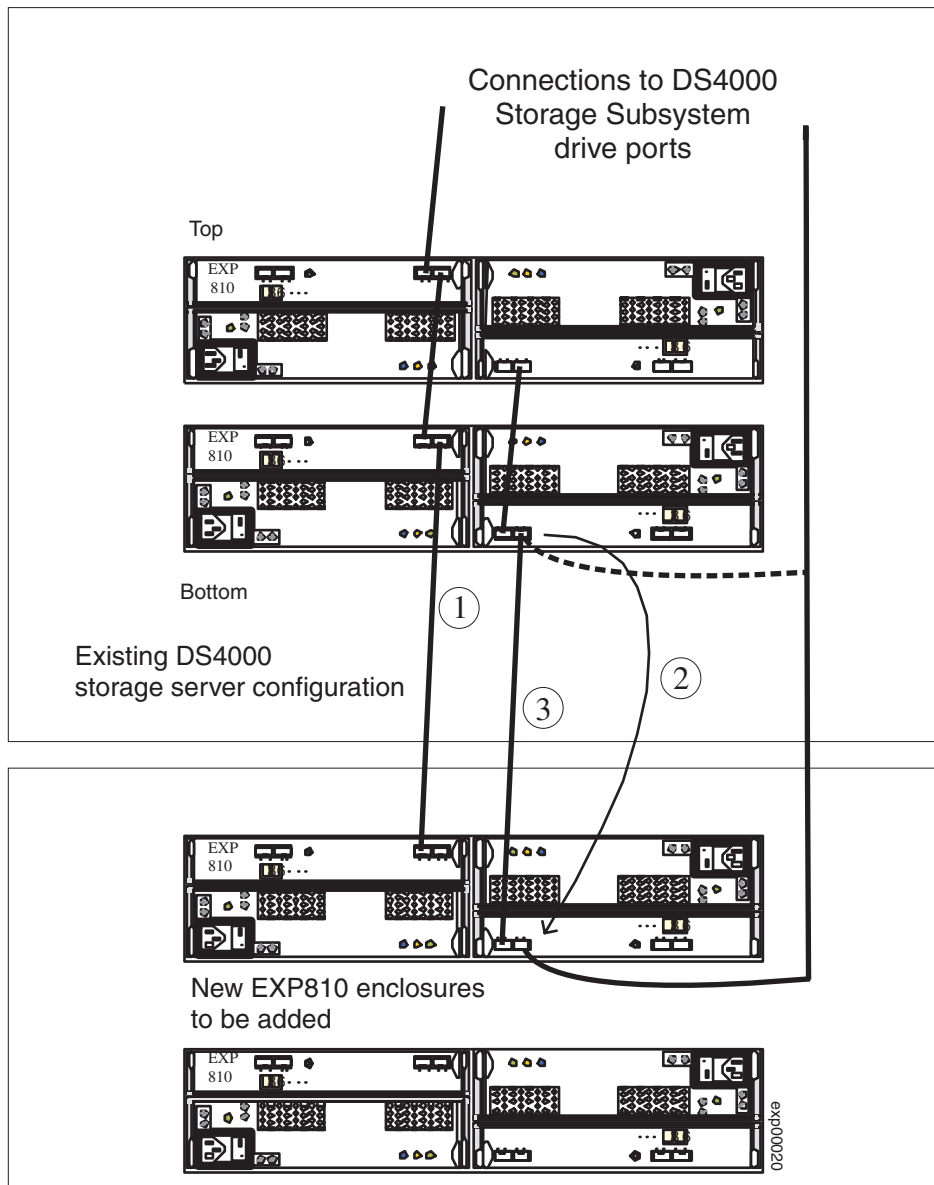

Figure 28. Cabling an EXP810 to the end of a functioning drive loop
- End (bottom) of a drive loop, see Figure 28 on page 78.
Note: The port name on an EXP810 is not labeled IN. See Figure 28 on page 78 for details.
Note: The port name on an EXP810 is not labeled 0UT. See Figure 28 on page 78 for details.